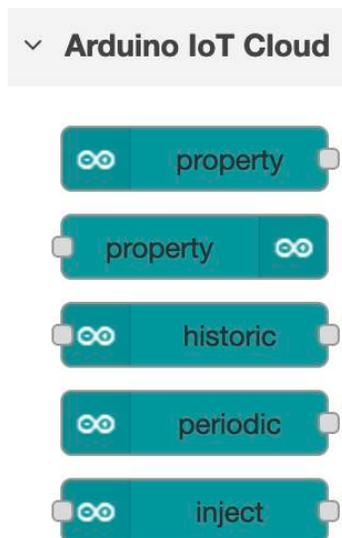
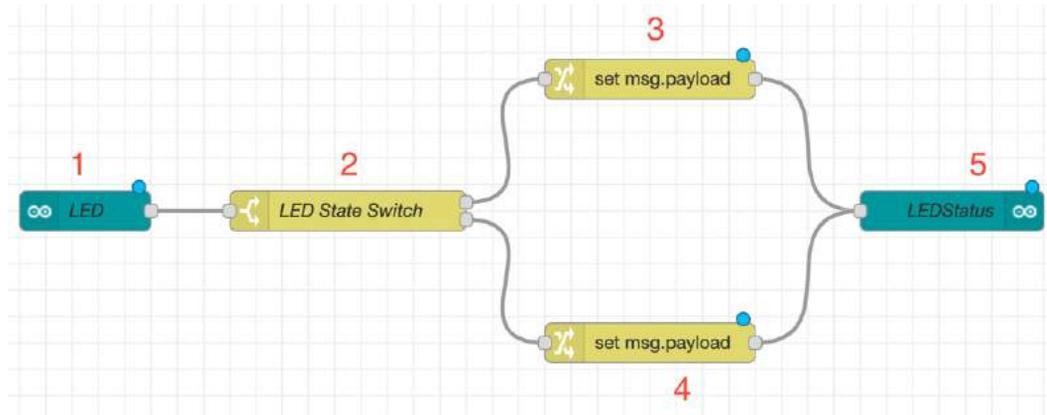

Figure 2.21 – Arduino IoT Cloud nodes
Figure 2.24 – A complete flow of the Node-RED project
Here is a breakdown of the nodes shown in *Figure 2.21*:
The *change* nodes (3 and 4) are responsible for sending content to the next node, which is 5. Drag 3 and link it with the *switch* node, as shown in *Figure 2.24*. Node 3 represents the `True/1/On` value. Double-click on this node. Now, click on the drop-down icon, which is marked by a red box in the following figure, select the **Boolean** type, and then select **true**.
1. Again, insert the *change* node and link it with the *switch* node (node 4) shown in *Figure 2.24*. This will represent the `False/0/Off` value. Double-click the *change* node, select the Boolean data type, and select the **false** value.
2. Everything is ready now. We just need to add a node that will send data to a specific Arduino IoT Cloud Thing variable. To send the data, we need the Arduino *OUT* node, which is the second node under the Arduino IoT Cloud tab shown in *Figure 2.21*. Drag this node, and connect both *change* nodes (3 and 4) to the Arduino *OUT* node (5) as shown in *Figure 2.24*. This node has the same configuration as the *IN* node. Select the connection, then the Thing, and finally, select the variable where you want to send the data. For the current exercise, we will select the `LEDStatus` variable.